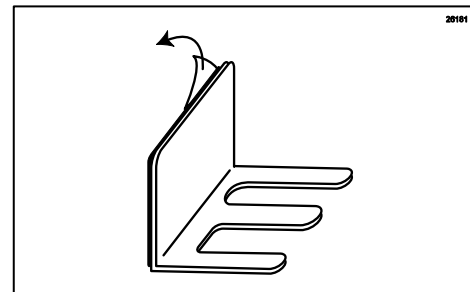

Figure 148
- Remove the protective adhesive tape from the adhesive strip on the Bracket. (See Figure 148.)